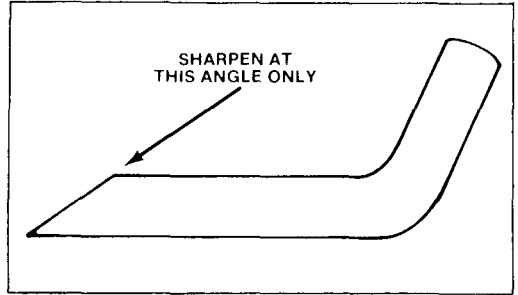

Figure 21
6. **SHARPENING BLADE** — Using a file, sharpen top side of blade and maintain original cutting angle (Fig. 21). The blade will remain balanced if same amount of material is removed from both cutting edges.